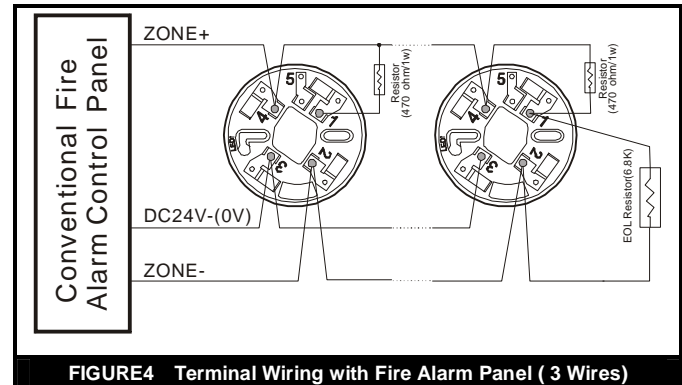
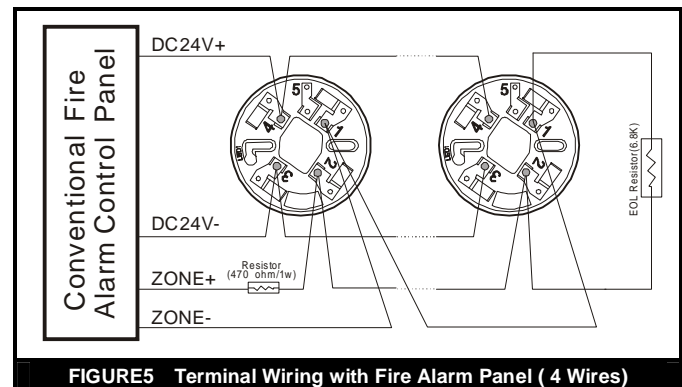

FIGURE4 Terminal Wiring with Fire Alarm Panel (3 Wires)
FIGURE5 Terminal Wiring with Fire Alarm Panel (4 Wires)
6. The detector can be connected with conventional alarm panel as Figure 4 or Figure5. One 470 ohm resistor should be used.